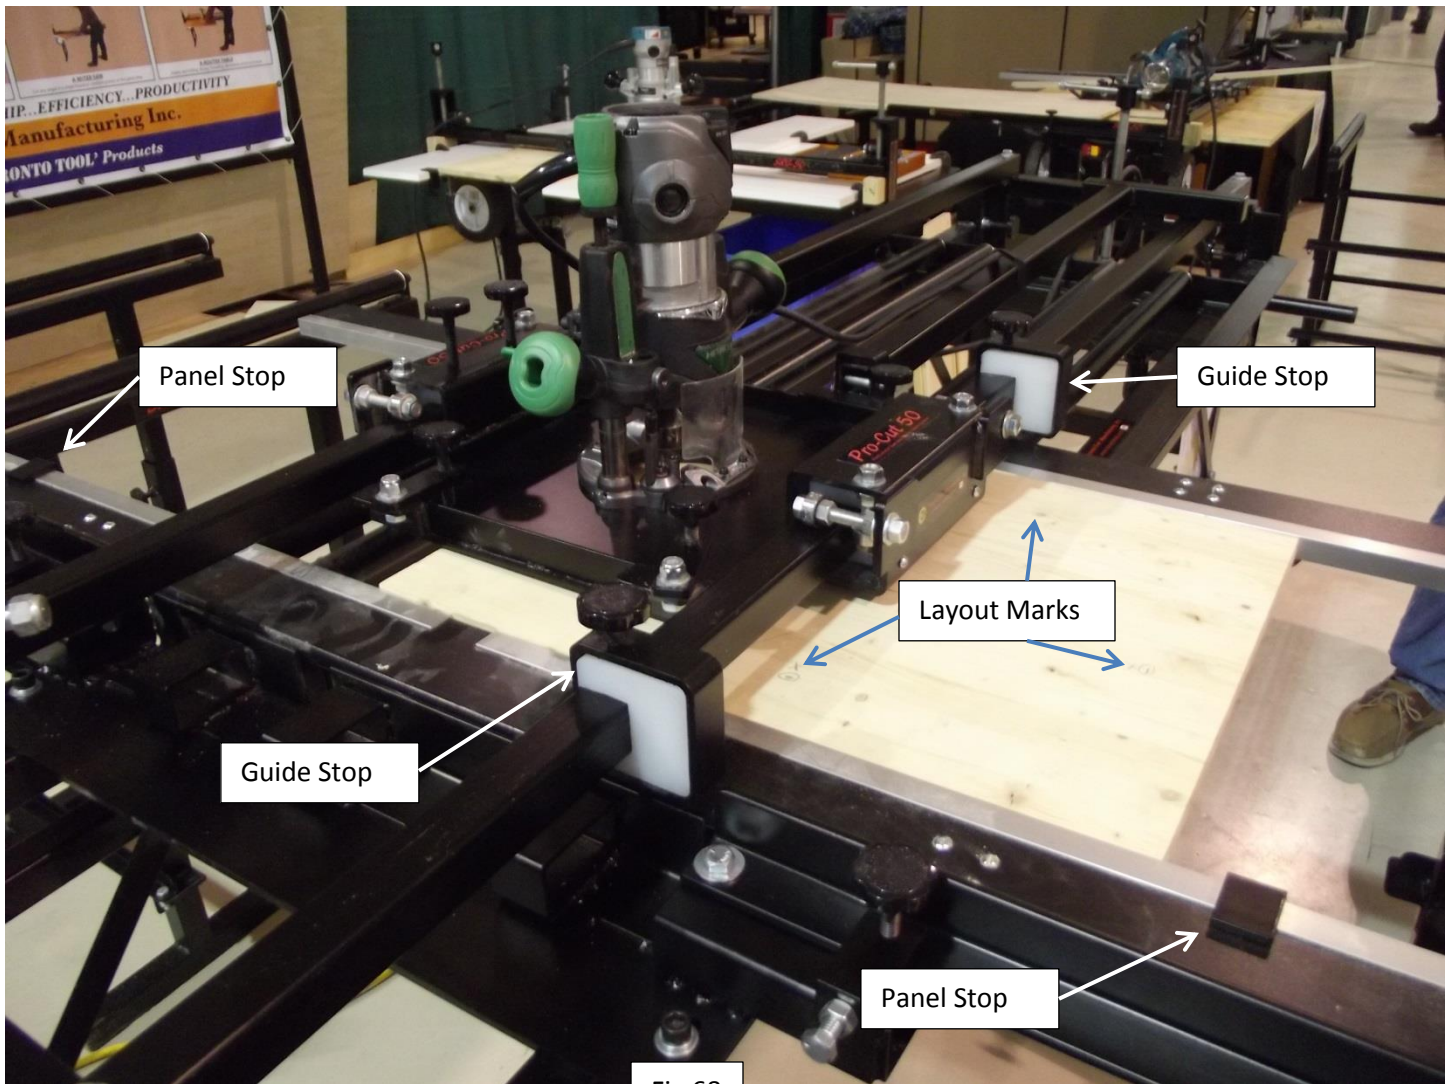

Fig 68
- 3) Set the panel stops and guide stops so the router will stop at the measured marks on your panel (Fig 68). If you are routing a small panel and the panel stops will not work then clamp a board to the clamp rails of the Pro-Cut 50 positioned in such a way to act as a stop.
1) Layout where you want your cut lines to be on your project as shown in Fig 68